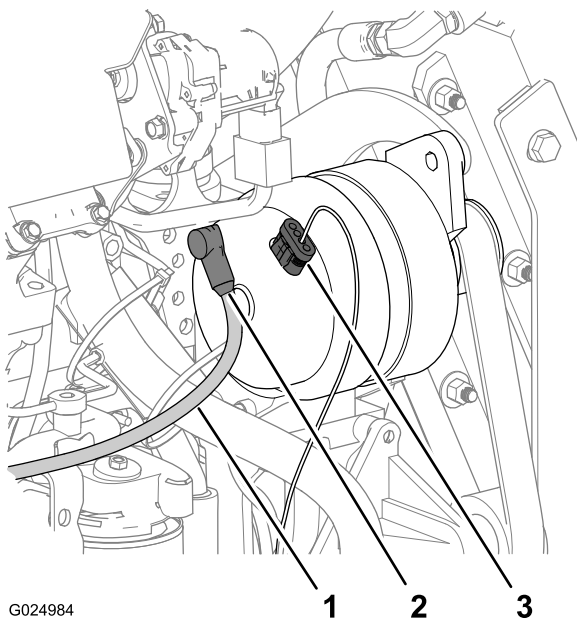

Figure 115
1. At the alternator, slide the boot off the terminal and stud at the back of the alternator (Figure 115).
3. Remove the 4-socket connector for the voltage-sense wire from the 4-pin connector on top of the alternator (Figure 115).
2. Connect the 4-socket connector for the voltage-sense wire to the 4-pin connector on top of the alternator (Figure 115).
3. Assemble the terminal of the charge wire onto the stud at the back of the alternator (Figure 115).
5. Align the boot of the charge wire over the terminal and stud (Figure 115).